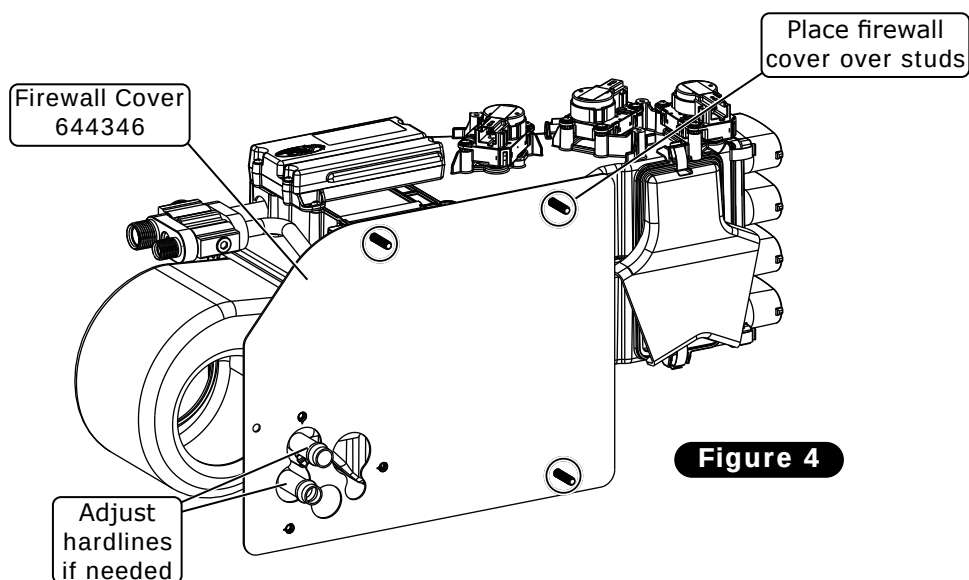

Figure 4
8. Place the firewall cover over the studs and adjust the hardlines as needed (See Figure 4, below).